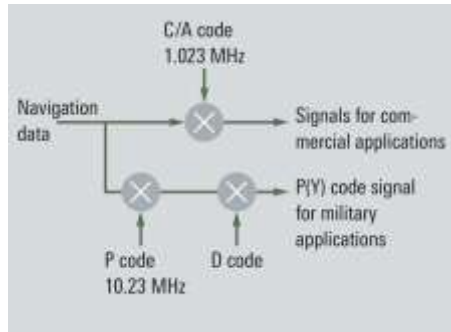

Figure 2: Various codes in GPS signals.
GPS devices can receive the two signals but cannot evaluate them. Since the P code signal is reserved for military applications, it is encrypted with a secret D code (*figure 2*). The resulting signal is referred to as a P(Y) code signal (or simply Y code signal). The D code, however, is not necessarily required to test receivers for P(Y) signal reception. Receivers can easily process these signals without this code, making it possible to test all necessary receiver functions and RF parameters such as sensitivity.